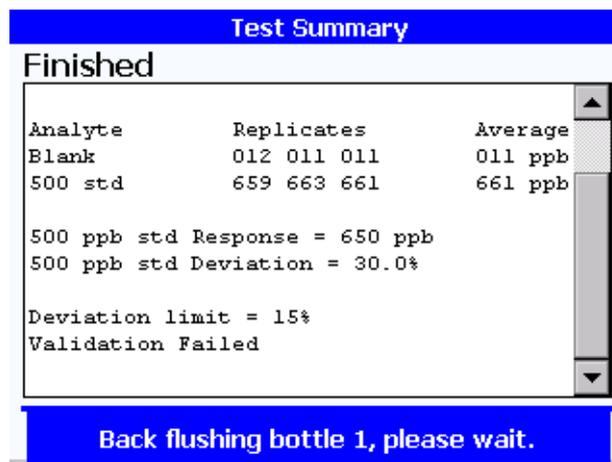

Figure 6-10 Test summary results box
- When the calibration is completed, the test summary results box appears, with a message informing you that the bottles are being backflushed. See Figure 6-10